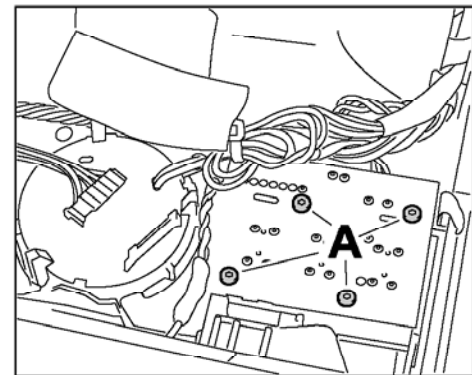

Figure 17
- 5.1.2 Position PCB on roof assembly and secure with four oval-head screws (N 909 151 01) ⇒ *Figure 17-A-*.